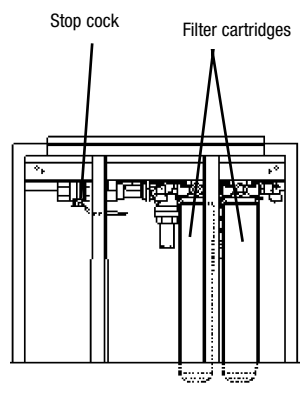

Figure 8
1. Unlock the front louvre panel to locate the filter as shown in Figure 8. Make sure the replacement filter cartridge is the same type as the one being replaced.